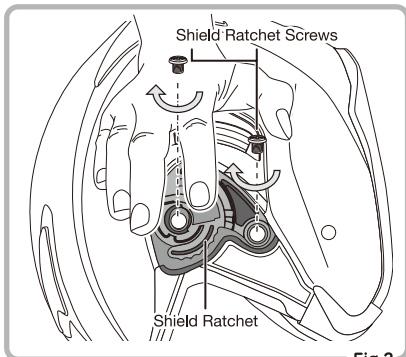

Fig.3
- ③ Fasten each Shield Ratchet Screw clockwise securely. Repeat the same procedure on the Shield Ratchet on the other side of the helmet. Then the installation of the shield ratchets is complete (Fig. 3).
- ② Flex the shield carefully until the shield becomes flat. Then, click the other side of the Pinlock® Original Insert Lens into the eccentric pins and then allow the shield to return carefully to its original curved shape. (Fig. 3,4,5)